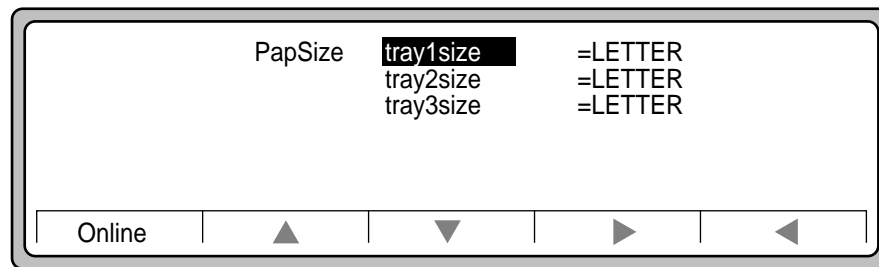

Figure 3-9 PapSize
1. At the Main Screen, press PapSize. Figure 3-9 appears.